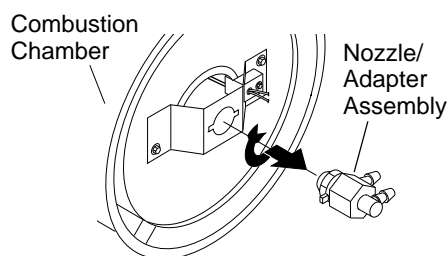

Figure 20 - Removing Nozzle/Adapter Assembly
4. Turn nozzle assembly 1/4 turn to left and pull toward motor to remove (see Figure 20).